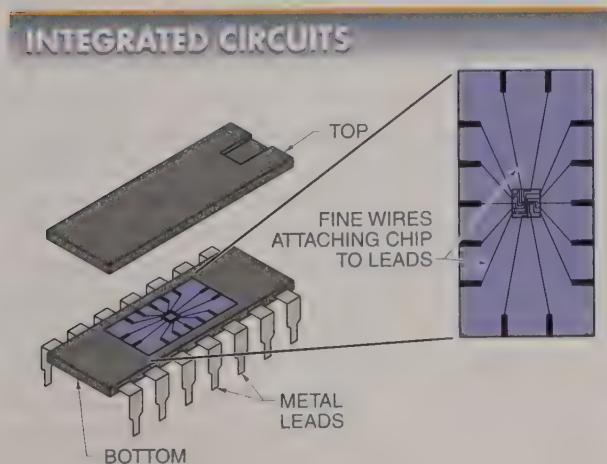

Figure 5-28. Integrated circuits are thousands of semiconductors, providing a complete circuit function in one small semiconductor package.
An *integrated circuit (IC)* is a circuit composed of thousands of semiconductor devices, providing a complete circuit function in one small semiconductor package. Integrated circuits are popular because they provide a complete circuit function in one package. Integrated circuits are often referred to as chips, although chips are actually a part of the integrated circuit. See **Figure 5-28**.